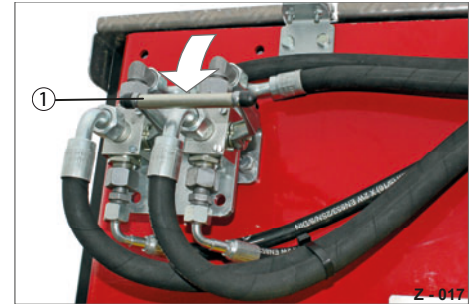

Abb. 23 Hydraulic feed "Electric pump"
- ▶ Flip the switch lever (Abb. 23/1) into horizontal position.